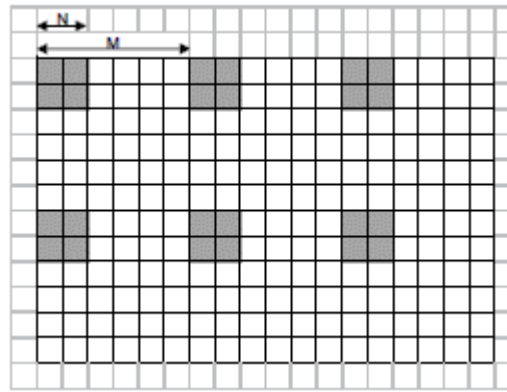
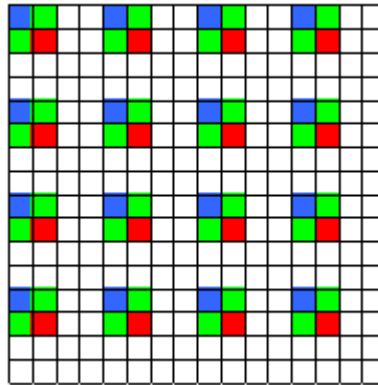

Figure 36: Monochrome subsampling with $N = 2$ and $M = 6$.
Figure 37: Color subsampling with $N = 2$ and $M = 4$.
Cheetah cameras provide a flexible subsampling capability. You define the number of sequential pixels to read out (N) and the total number of pixels of the contiguous area (pixels readout + pixels skipped) (M). The subsampling decimation factors (N and M) apply along both rows and columns as shown (Figure 36 and Figure 37). The camera adjusts AOI size depending on subsampling factor, averaging factor, and the presence of a color filter array on the image sensor.